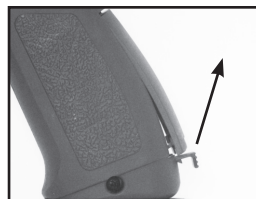

Figure 5: Open Battery Door
1. Remove the battery door from the back of the E-Grip by pulling up and back on the tab. (arrow, Figure 5).